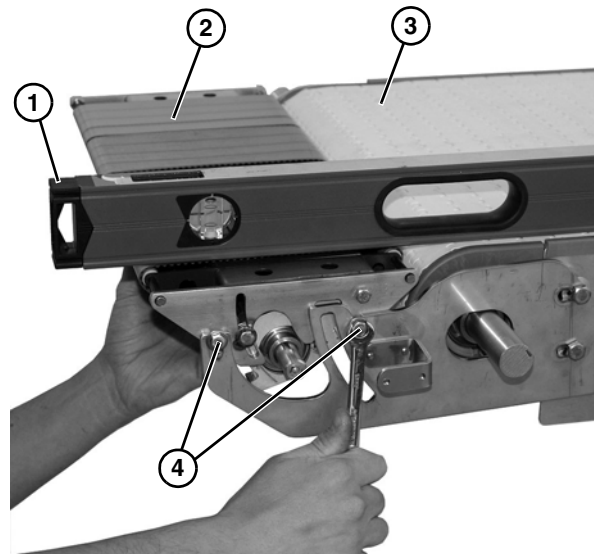

Figure 29
9. Place level (**Figure 29, item 1**) or straight edge to level power transfer assembly (**Figure 29, item 2**) with conveyor belt (**Figure 29, item 3**).
10. Tighten bolts (**Figure 29, item 4**) to secure position.